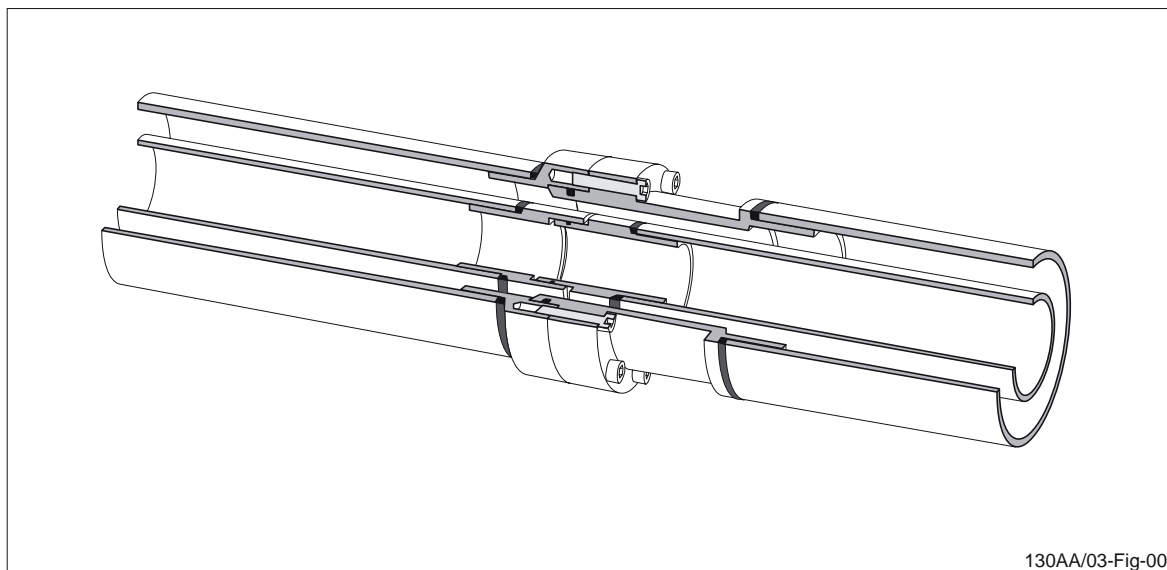

Figure 1 The twin tube flanges are bolted together and the bolts are locked by loctite.
- All joints must be cleaned and the flange bolts tightened in a cross-pattern, see figure 1.